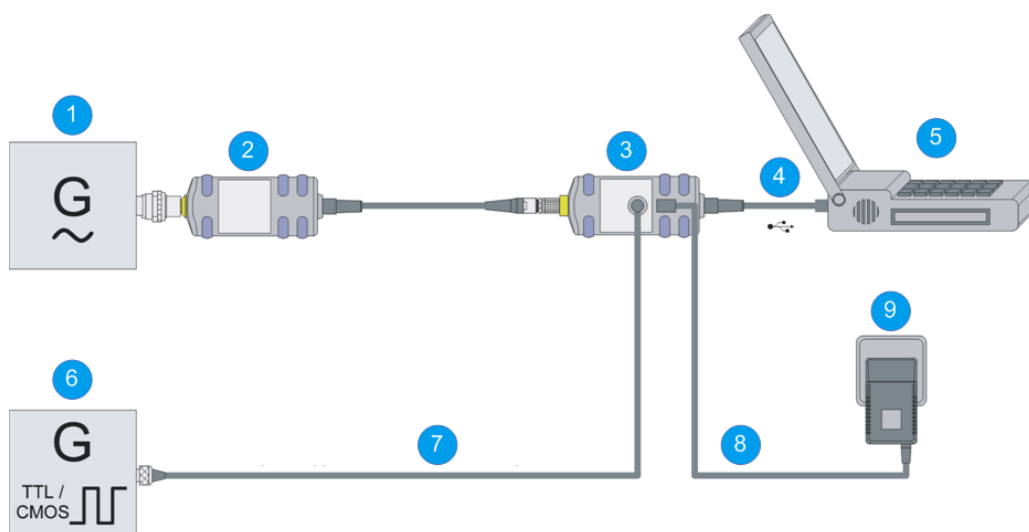

Figure 5-2: Setup with an active USB adapter
1. Connect the cables as shown in Figure 5-2: